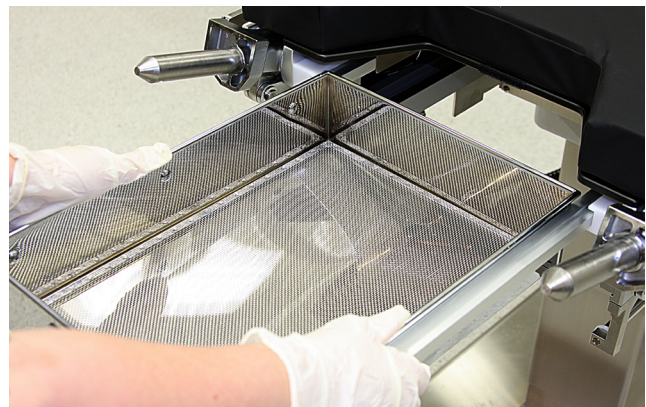

Figure 6. Uro Tray Installed
2. Insert both legs of the Uro Tray into the brackets and slide forward until it stops (Figure 6).